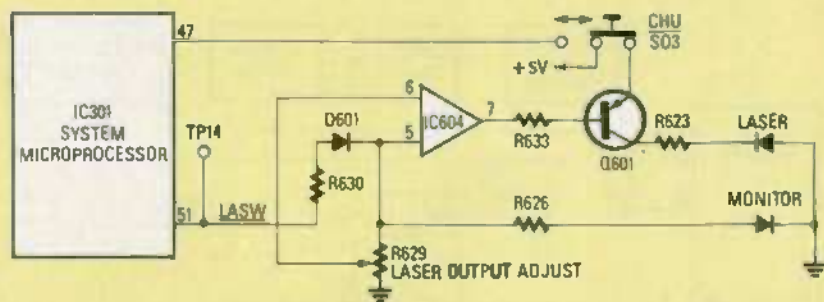

FIG. 27—LASER CIRCUIT PROBLEMS can cause a variety of malfunctions.
2. Laser-diode problems. Figure 27 is the troubleshooting diagram. CD player operation depends on the laser producing a beam of the correct level. If the beam is absent, there is no EFM signal. If the beam is weak, the EFM signal is weak. If the monitor diode does not monitor the laser diode properly, the beam can shift to an incorrect level (high or low), without that event being sensed by the laser-drive circuits. Any of those conditions can cause improper tracking which, in turn, can produce an even weaker EFM.